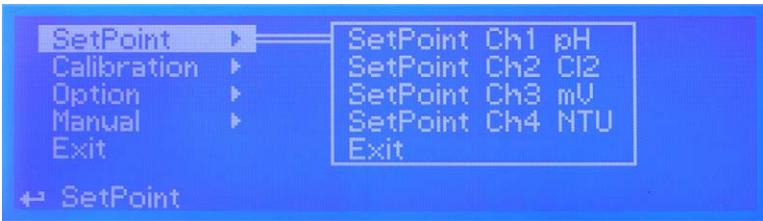

fig. 3
From setup menu (fig.3) rotate wheel to highlight "Setpoint" then press wheel. Again rotate wheel until to reach desired measure between pH - Cl₂ - mV - NTU - Temperature. Customized version includes: potentiostat (mg/l Cl₂) and Fluorine (F)